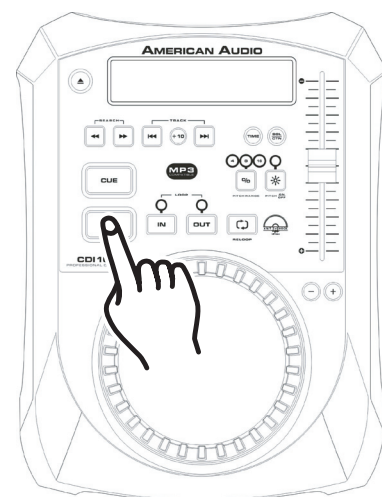
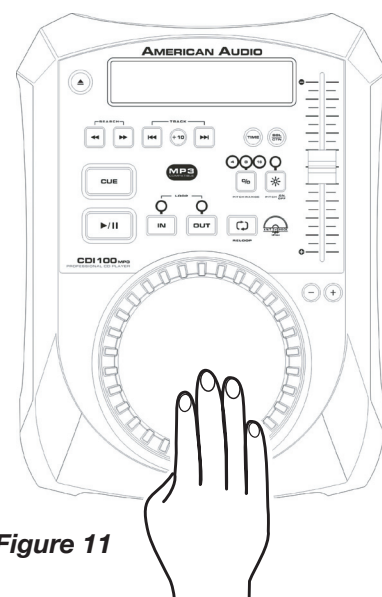

Figure 9
Figure 11
3. STARTING PLAYBACK - *Figure 9*
4. PAUSING - *Figure 9*
6. STOPPING PLAYBACK - *Figures 9 & 10*
- 1) Press the *PLAY/PAUSE BUTTON (11)* during playback. This will pause playback at the exact same point the *PLAY/PAUSE BUTTON (11)* was pressed.
- 2) Press the *CUE BUTTON (12)* during playback. This will pause playback and return the track to the last set cue point.
This feature allows you to scroll through a track frame by frame, allowing you to find and set a starting cue, sample, or loop point. To use the scroll function you must first be in Pause Mode or Cue Mode. Once you are in Pause or Cue mode, turn the *JOG WHEEL (9)* to scroll through the track (*Figure 11*). Turning the wheel in a clockwise direction will advance the frame search and turning the wheel in a counter-clockwise direction rewinds the frame search. When you use the *JOG WHEEL (9)* the monitor (headphone level) function allows you to hear what you are scrolling through. Once you reach your desired starting point you can set a cue (starting) point by pressing the *PLAY/PAUSE BUTTON (11)* as in *Figure 9*. Pressing the *CUE BUTTON (12)* as in *Figure 11* will now return you to the point you just set.